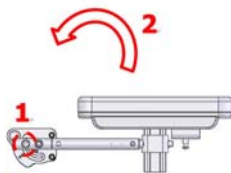

Figure 5-57
5.3.4.2.6 The flip Back armrest assembly of KISS seat is shown as Figure 5-57.
5.3.4.2.7 Press the spring button and flip the armrest back. (Figure 5-57)